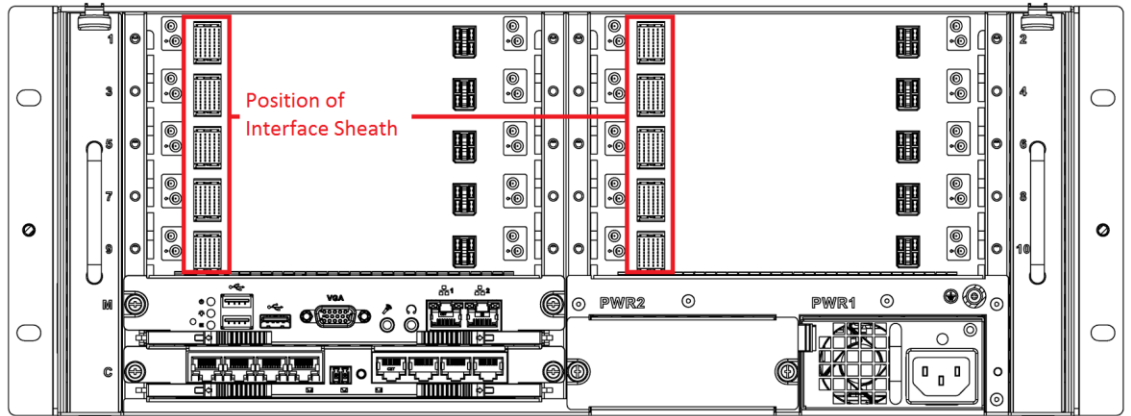

Figure 2-1
Step 1 Remove interface sheath on rear panel of the case, as shown in Figure 2-1.